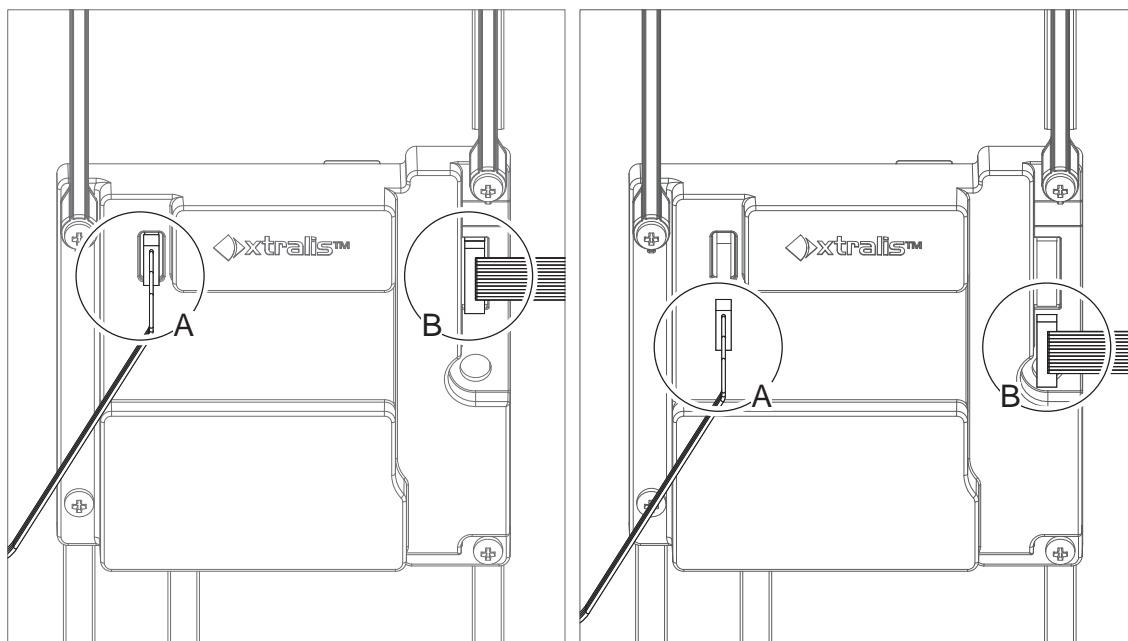

Figure 7-4: Disconnect the LCD and LED looms
4. Disconnect the LCD loom (A) and LED loom (B) (Figure 7-4).